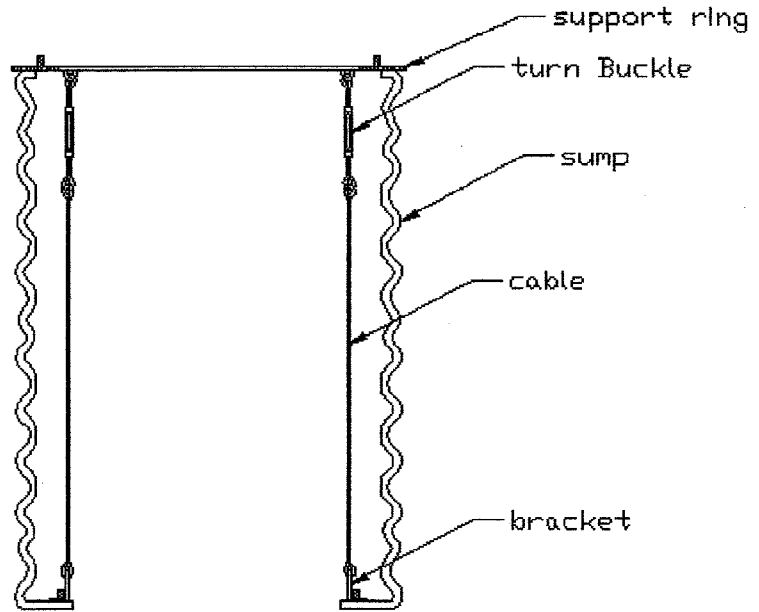

Figure 3
4. Make sure the hooks of the turn-buckle is fully extended by screwing outwards. Attach the capable with bracket to the bottom of the sump. Taut the cable and connect to the hooks of the Support Ring as shown in Figure 3 below.